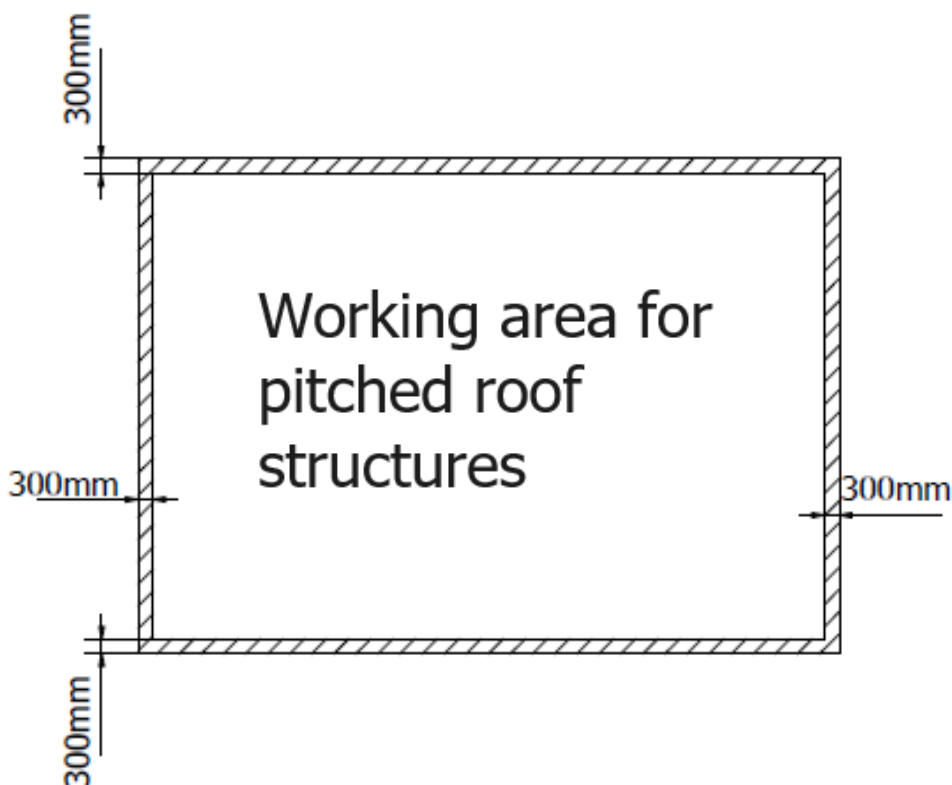

FIGURE. 1 Working area for pitched roof structures
1. The layout of the modules shall be arranged to minimize or preclude the appearance of shadow on the modules. Keep in mind that even the shadow cast by trees or buildings can limit the yields generated by modules. When mounting the system in summer, be aware that the shadow cast by trees and neighboring buildings will reach much further in winter. Also remember to keep the safe zone on the roof sheathing - figure 1